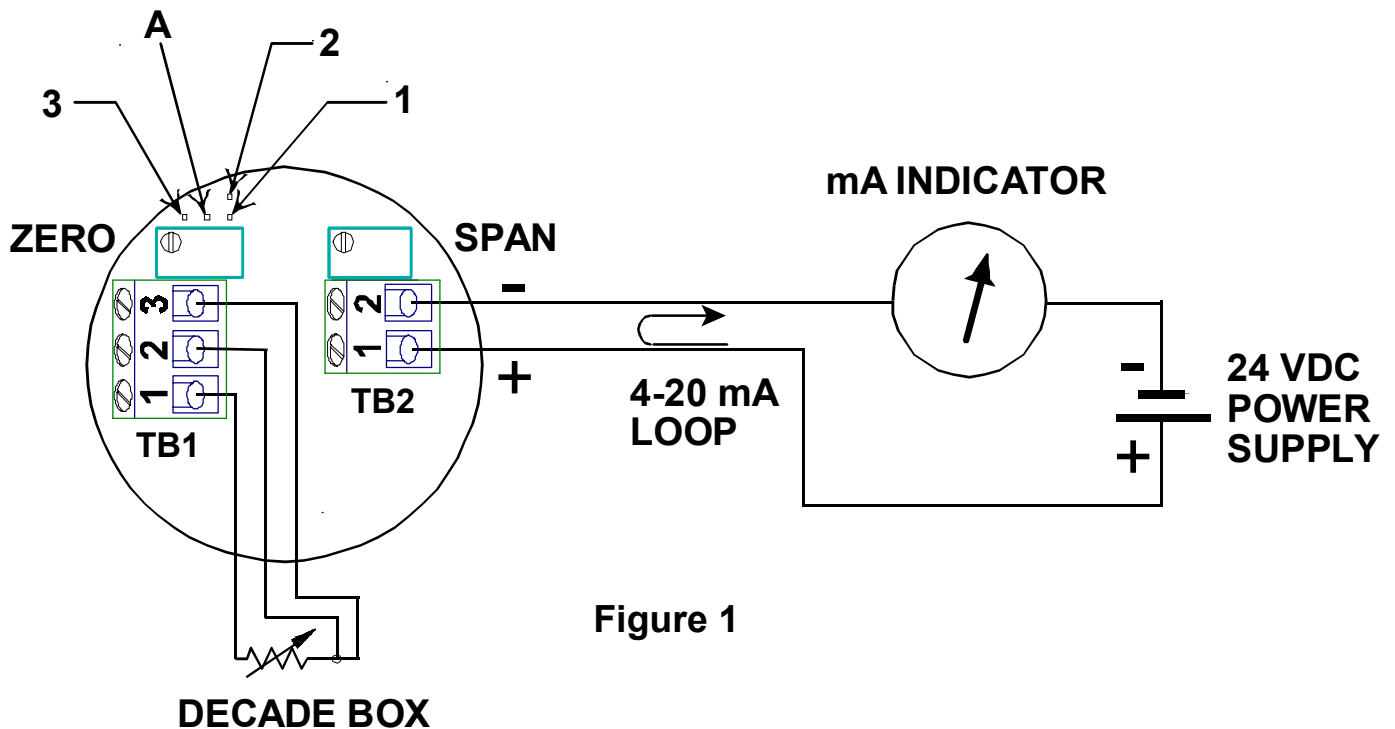

Figure 1
- Bend over the lead designated 1, 2, or 3, depending on selection from table, to the A lead and solder. See Figure 1 below. For the above example, lead 2 should be soldered to lead A.
- Connect a power supply of 24 VDC, and a digital milliammeter (5-1/2 digit preferred) as shown in Figure 1, or use a loop calibrator instead of the DC supply and milliammeter.